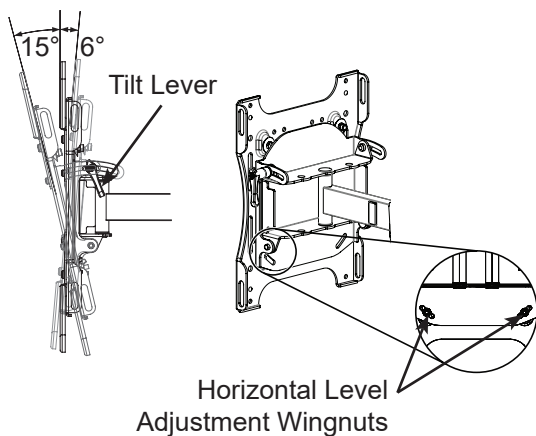
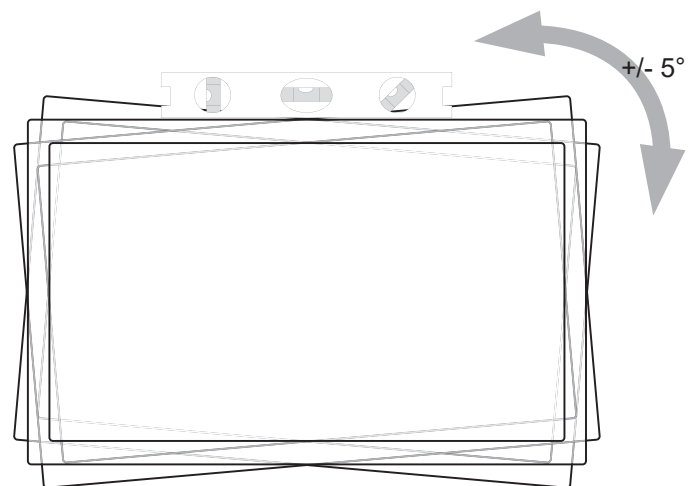

Figure 8
Figure 9
1. Loosen Tilt Lever on the side of Mount Head (only enough to allow controlled adjustment) (Figure 8).
1. To adjust the horizontal angle of the display, first slightly loosen the top two screws on back side of the Arm Assembly Head Mount using the provided Allen Key. Then firmly hold opposite corners of the display and gently turn it into the desired position. When level, re-tighten screws to lock in position (Figure 8 and Figure 9).